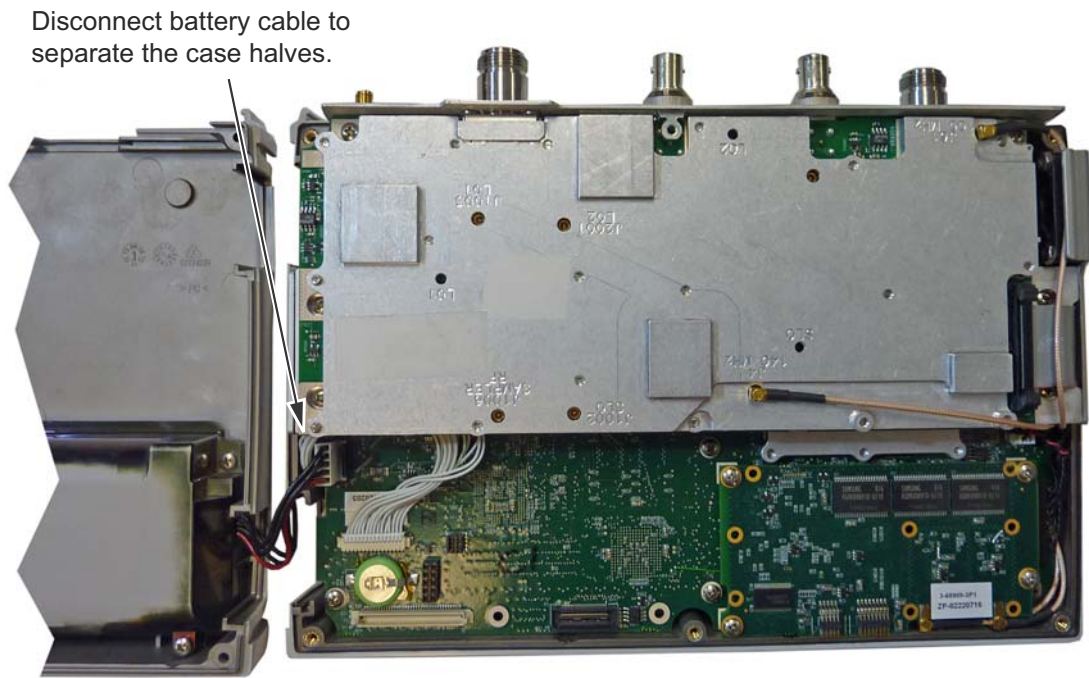

Figure 7-3. LMR Master Opened 180 Degrees
6. Lay the S412E flat and remove the battery connector cable between the two halves (Figure 7-3).